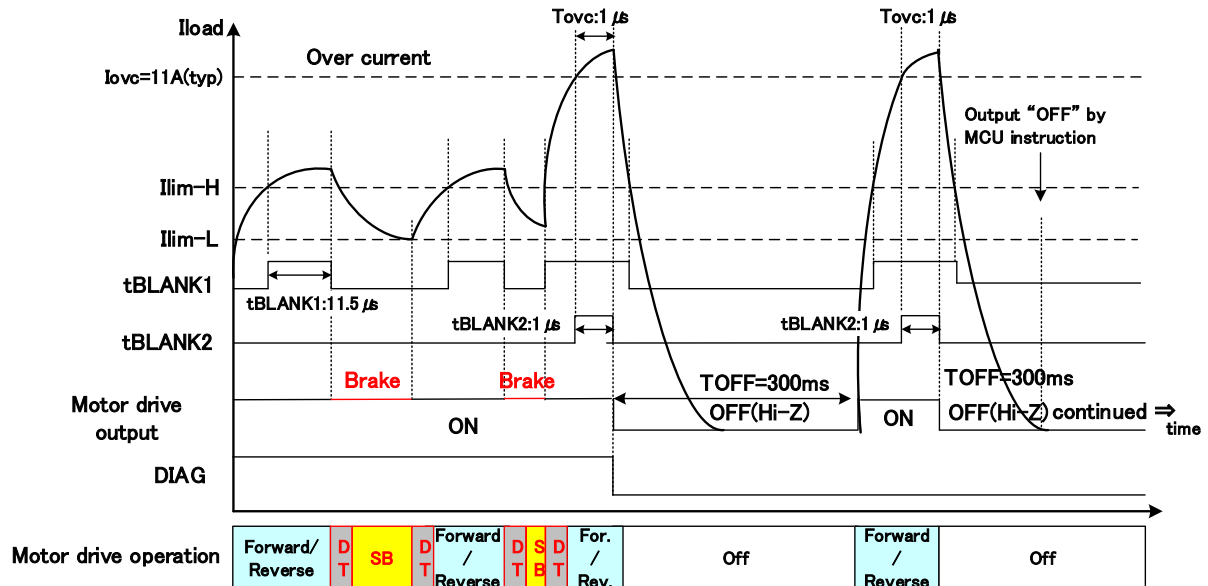

Figure 7.42 Over-current detection operation for short-circuit to power supply or ground, and short-circuited load: timing chart 1
7.15. Circuit to detect over-current caused by short-circuit to power supply or ground, or short-circuited load (Figure 7.42, Figure 7., and Figure 7.)
7.15.1. SPI settings: Over-current detection in automatic recovery mode (see Figure 7.42 and Figure 7.43)